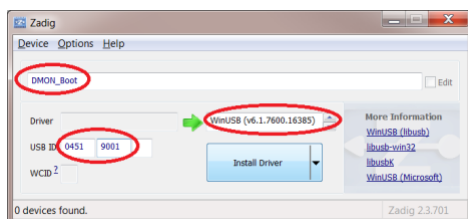

Figure 2. Create DMON_Boot device
5. In the top field, enter the name of the device: "DMON_Boot". See Figure 2.